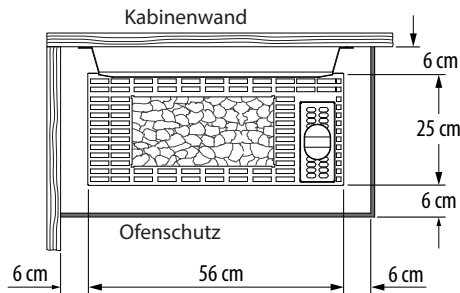

Fig. 2
- When you are assembling the sauna heater you must ensure that the vertical distance between the top edge of the sauna heater and the sauna ceiling is at least 90 cm and that the horizontal (at the side) distance between the heater and cabin wall is at least 6 cm (Fig. 2).